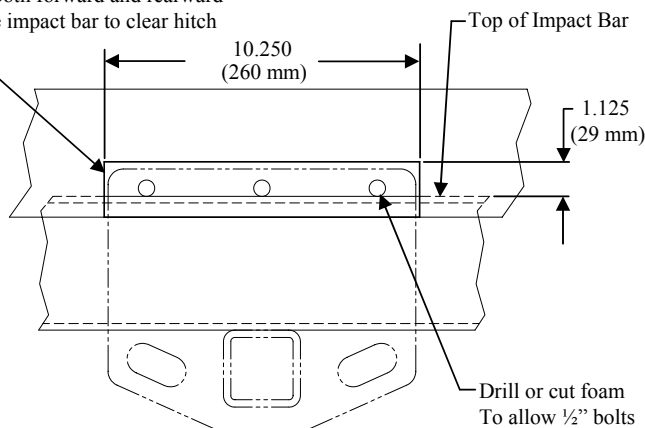

Figure 2
①	Qty. (3)	Hex Bolt – 1/2-13 x 4.500 GR5	②	Qty. (3)	Lock Washer 1/2"
- Trim rigid foam fascia support on both forward and rearward sides of vehicle impact bar as shown in Figure 2 (approximately 10-1/4" wide and 1-1/8" above top of vehicle impact bar) to allow hitch brackets to fit flat against impact bar.